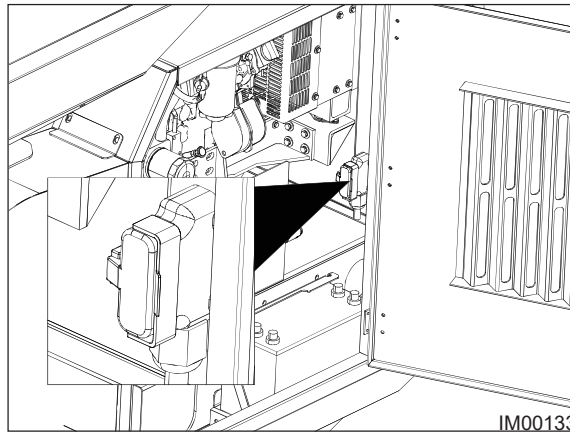

Fig: 6.9 - Umbilical Plug Socket
5. Obtain the over-ride plug and insert it into the plug socket inside the engine compartment (Fig: 6.9) and secure.